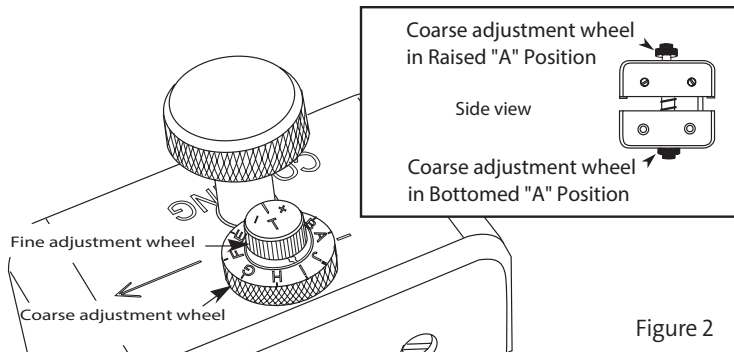

Figure 2
1.3 The UAT3 tool is designed to give infinite blade height adjustment to accommodate a range of both tube diameter and wall thickness. This is accomplished without the need for a set-up gauge through the use of both coarse and fine adjustment wheels on both halves of the tool (Figure 2).
NOTE: *The coarse blade adjustment wheels have over 360° of rotation, which results in both a “Raised A position” (a backed-out, shallow blade position) and a “Bottomed A position” (all the way in, or deepest cutting position) (Figure 2, inset).*